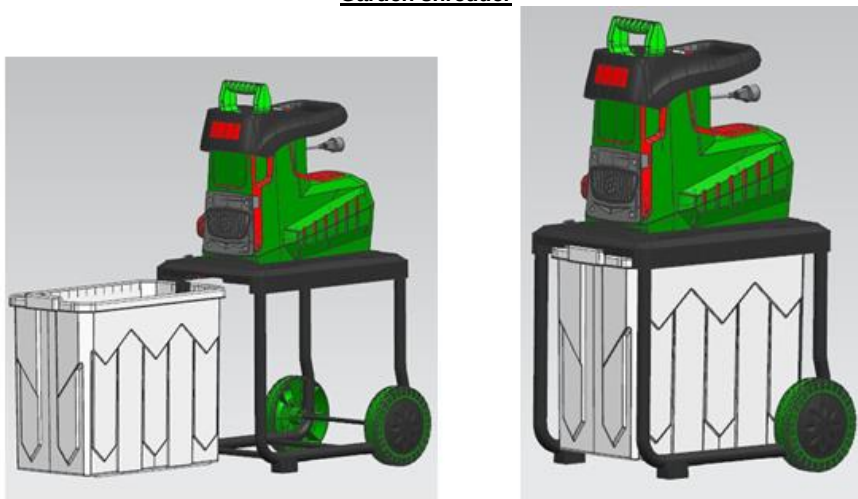

Fig. 3
- 3) Install the waste container by sliding it into the frame under the disposer body, see Fig. 3.